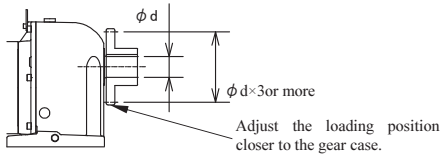

Fig.3 Sprocket position
- (3) To prevent damage caused by the overhang load, adjust the positions of the sprocket, gear, pulley, etc. so that the loading position can be closer to the joint of the output shaft and the gear case (refer to Fig.3).